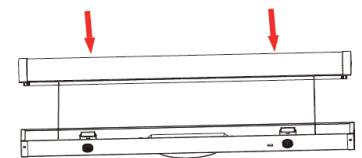

Fig. 35
5. Attach the housing cover back onto the fixture. It should be locked in place with the springs installed in the fixture (Fig. 35).